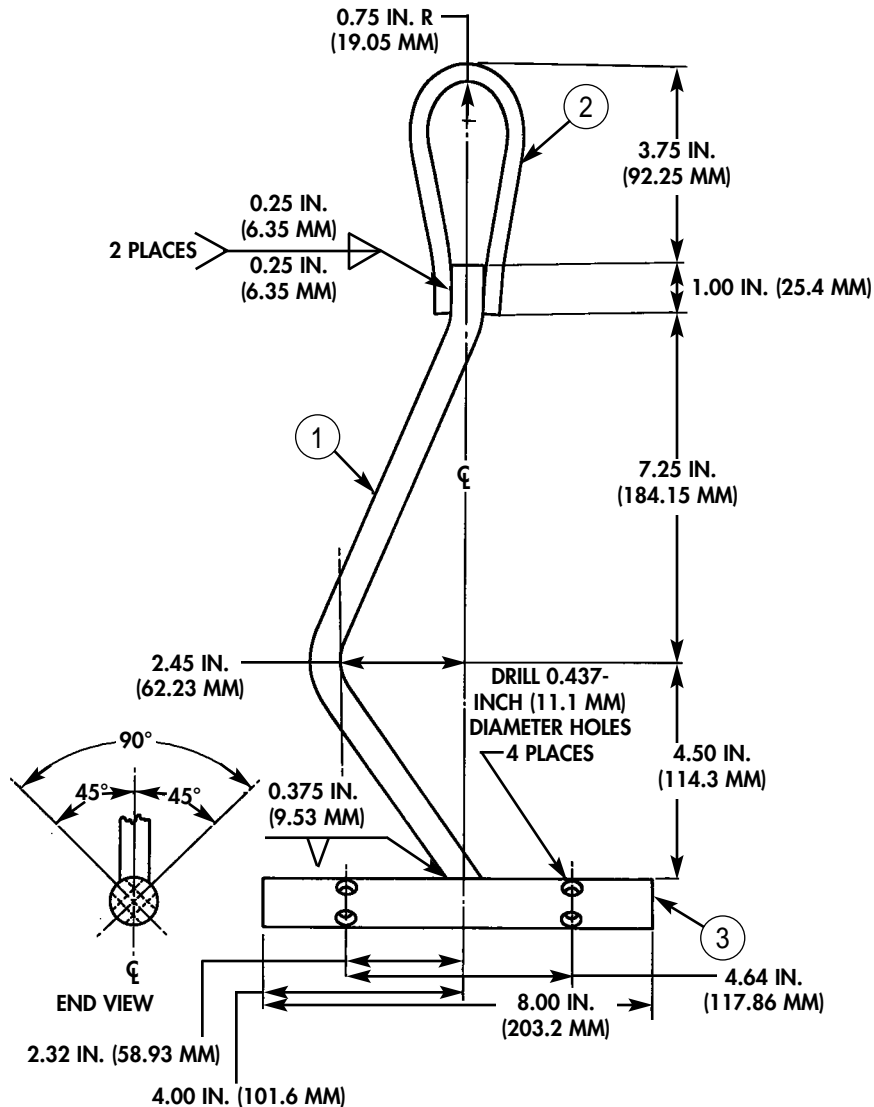

Figure D-111. Cylinder Head Lifting Device.
Bend metal bar (1) as shown in figure D-111.
Bend metal bar (2) as shown in figure D-111.
Locate, mark, and drill four 0.437-inch diameter holes through metal bar (3) as shown in figure D-111.
5. Weld all three metal bars together as shown in figure D-111. All welds will be in accordance with MIL-STD-1261 Class 2. All weld sizes are minimal.